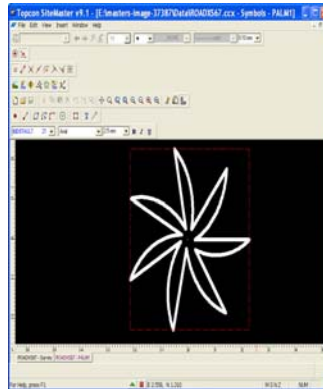

Figure 15-3. Symbol Editor
3. To edit a symbol, double-click on the symbol or select it and click **Open**. The symbol appears in the **Symbol Editor** (Figure 15-3 on page 15-4) enclosed in a red dotted square. Modify the symbol using the tools on the toolbar, and then complete the symbol definition by clicking the **Hot Button** . Make the appropriate selections, and then click **OK**.